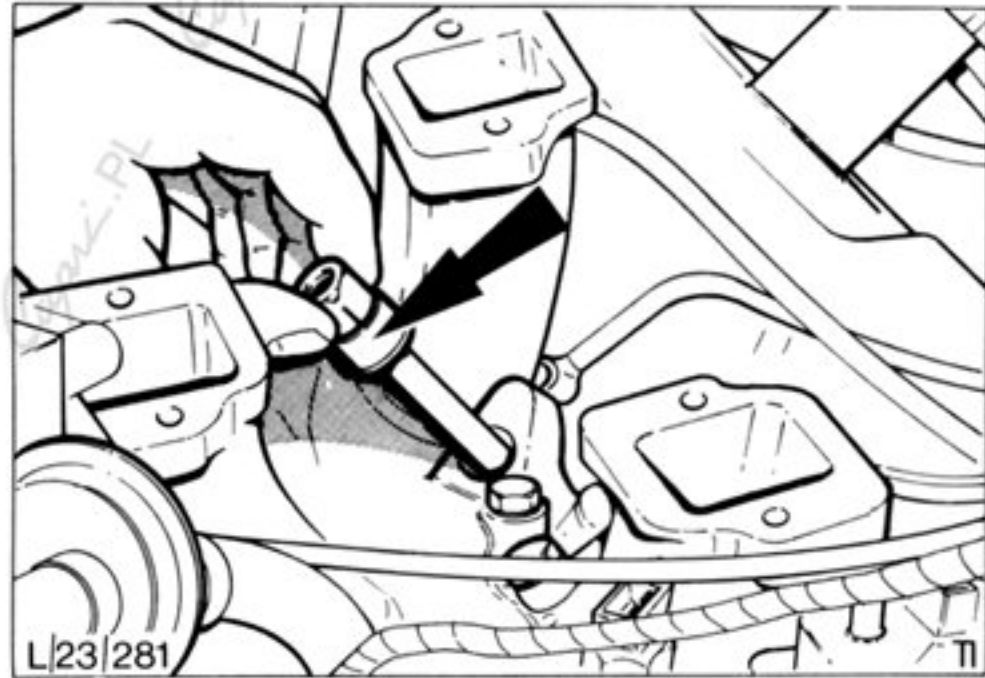

Fig.28. Remove injection nozzles.
9. Unscrew fuel lines from injection nozzles and warm-up regulator. Remove injection nozzles, Fig.28.